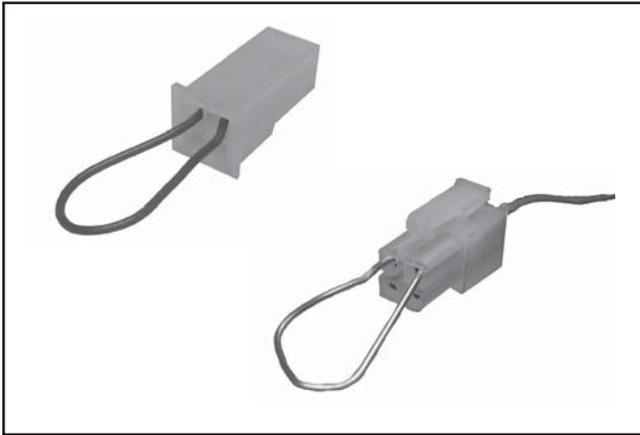

Figure 5B-6. Service Connector Plug.
3. Locate the service connector plug in the wiring harness. To initiate the TPS auto-learn function, connect a jumper wire from the TPS initialization pin #24 (violet wire) to the battery voltage pin (red wire), or use a jumper connector plug with the blue jumper wire. See Figure 5B-6. If using the PC-based diagnostic tool and software (see Section 2), go to "Special Tests" and follow the prompts to complete.